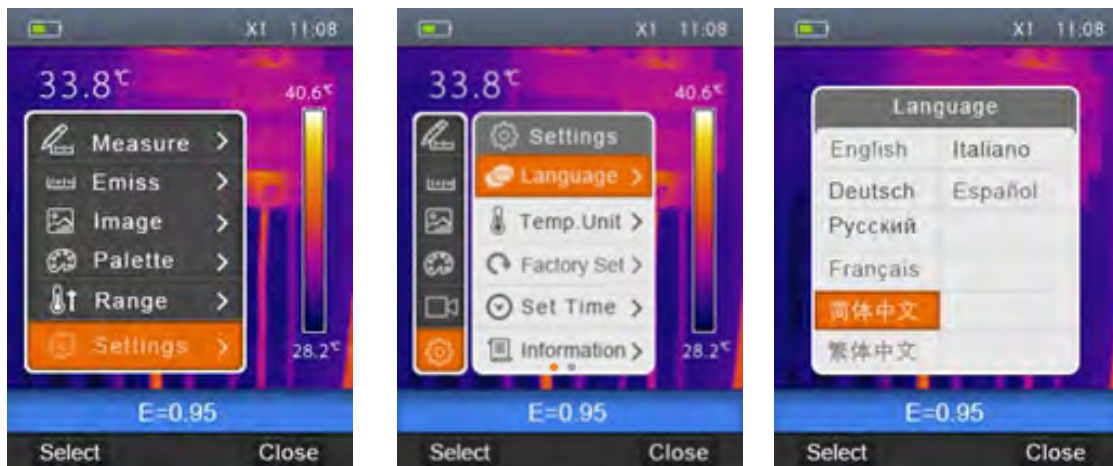

Fig. 8: System language setting
1. Select the item “Language” with the keys \oplus or \ominus and press the key ☰ . The screen Fig. 8 – Right side is shown on the display.